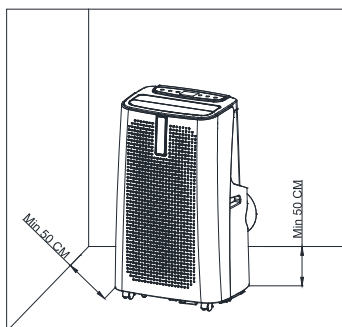

Fig. 5
1) Move the machine with installed heat pipe and fittings before the window, and the distance between the body and walls or other objects shall be least 50 cm (as shown in Fig.5).